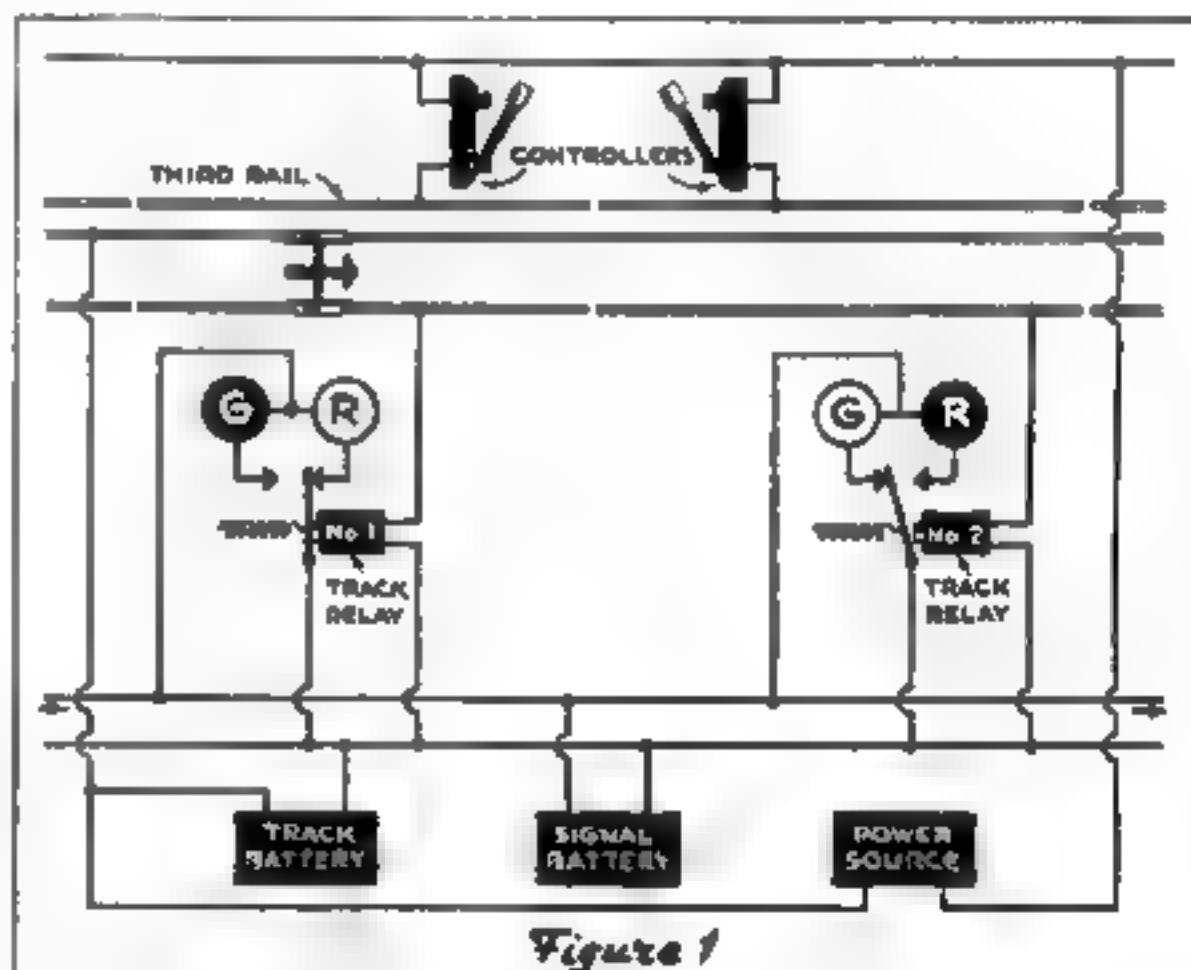

Figure 1
In Fig. 1 we have the orthodox three-rail main line, broken up into blocks according to standard model-railroad practice. Of the two running rails, the upper one is con-
The power circuit is under your control. From your perch before the operating panel you stop and start your trains at will. But over the track circuit you have no direct control. This is closed by the physical presence of a train in any given block; it is broken with the departure of the train. Likewise you have no direct control over the signal circuit, which in any case is not subject to interruption, but flows continuously through one light or the other depending upon whether the track relay is energized or inactive. All of which is made clear in Fig. 1.
**COMBINING RAILS.** Now let us take this whole setup, precisely as it stands in Fig. 1, and see what happens if we combine the third rail with the control rail which it so closely resembles. So far as the signal circuit is concerned, nothing at all will happen, for